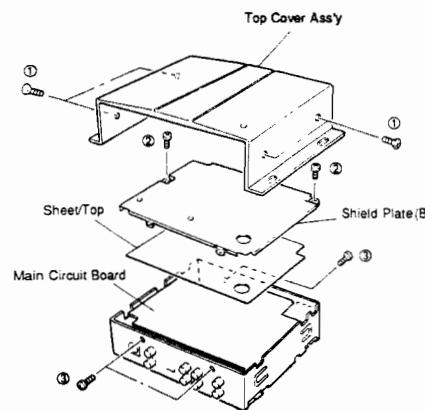

Fig. 1
- a. Remove 4 screws (①) in Fig. 1.
2. Removal of Shield Plate (B)
- a. Remove 5 screws (②, ③) in Fig. 1.